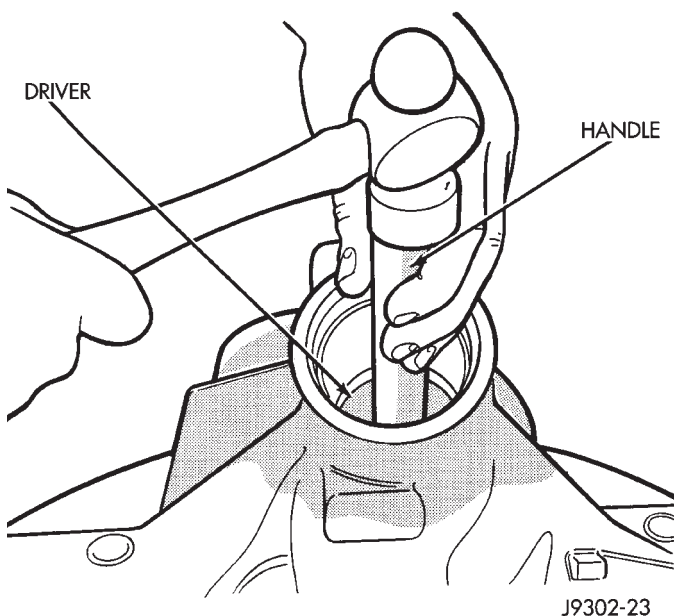

Fig. 31 Rear Bearing Cup Removal
(8) Remove the rear pinion bearing cup from axle housing (Fig. 31). Use Remover D-148 and Handle C-4171.
(9) Remove the depth shims from rear pinion bearing cup bore in axle housing. Record the thickness of the depth shims.